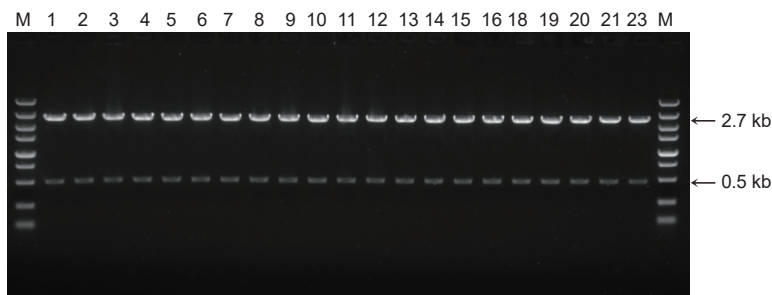

Fig 6. Agarose Gel Electrophoresis of Enzyme Digestion Products
- ◇ Inoculate the remaining bacterial solution of positive clones into the liquid LB medium (contains appropriate antibiotics) for overnight incubation. Then, extract the plasmid for restriction endonuclease digestion identification (Fig 6), or directly perform sequencing.